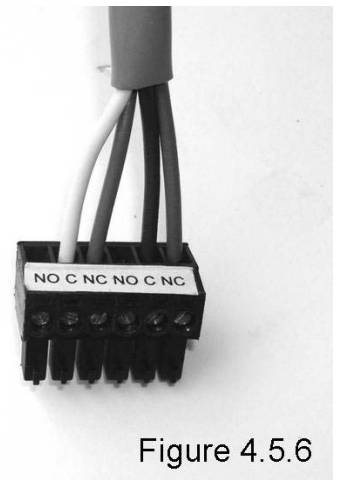

Figure 4.5.6
6. Observe mating connector on PowerPause™ Load Management Module(s) labeled NO-C-NC NO-C-NC. Based on the relay type selected to manage loads (Normally Open (NO) or Normally Closed (NC)), strip 18AWG, 300V relay control wire ¼” and insert and tighten into C (common) terminal and NO or NC terminal. Repeat for priority 2-6 loads. Tighten all wire connections to proper torque. NOTE: If wiring the Module in series to the 24VAC A/C compressor thermostat control circuit, wire to the C and NC terminals, if to a PowerPause™ Relay Systems, wire to the C and NO terminals. See Figure 4.5.6.